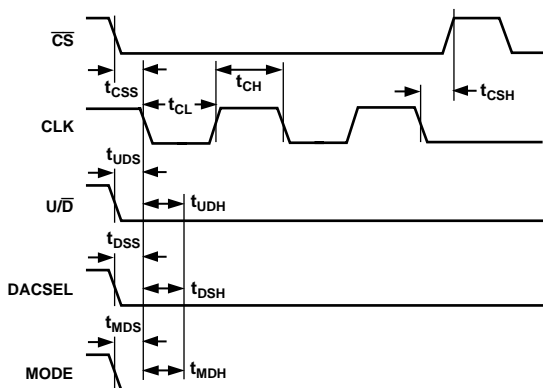

Figure 2. Detail Timing Diagram
The AD5222 provides a 128-position, digitally-controlled, variable resistor (VR) device. Changing the VR settings is accomplished by pulsing the CLK pin while \overline{CS} is active low. The U/ \overline{D} (UP/DOWN) control input pin controls the direction of the increment. When the wiper hits the end of the resistor (Terminal A or B) additional CLK pulses no longer change the wiper setting. The wiper position is immediately decoded by the wiper decode logic changing the wiper resistance. Appropriate debounce circuitry is required when push-button switches are used to control the count sequence and direction of count. The exact timing requirements are shown in Figure 2. The AD5222 powers ON in a centered wiper position, exhibiting nearly equal resistances of R_{WA} and R_{WB} .